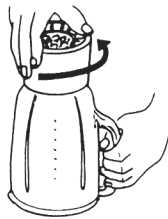

Fig. 1
1. Juice cup and Cutter Ass'y --Fig.1,2,3